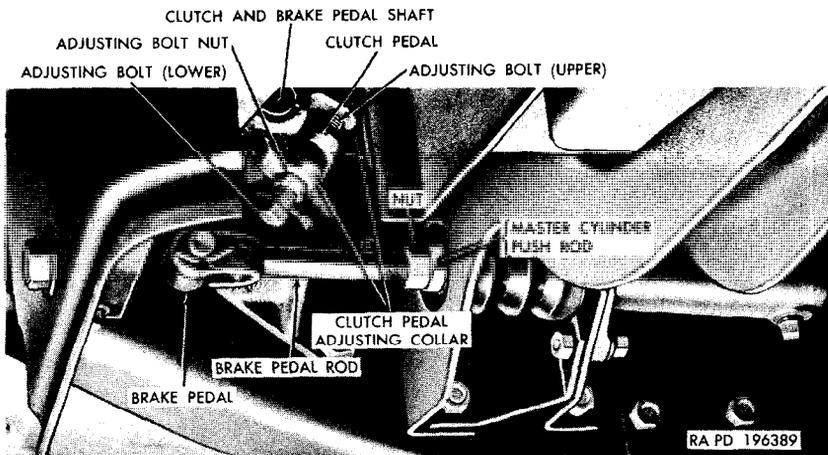

Figure 156. Clutch and brake pedals installed.
a. General. Correct clutch pedal free travel is 1 inch. Adjustment is accomplished by changing the position of the clutch pedal in relation to the clutch pedal adjusting collar. Two adjusting bolts (fig. 156) are provided for this purpose.
- (1) Loosen the adjusting bolt nuts on the upper and lower adjusting bolts (fig. 156).
- (2) Turn the bolts in or out of the collar to provide 1-inch free travel of the pedal. Loosen the upper bolt and tighten the lower bolt to increase free travel; loosen the lower bolt and tighten the upper bolt to decrease free travel.
- (3) Tighten the nuts on both adjusting bolts after making the adjustment.